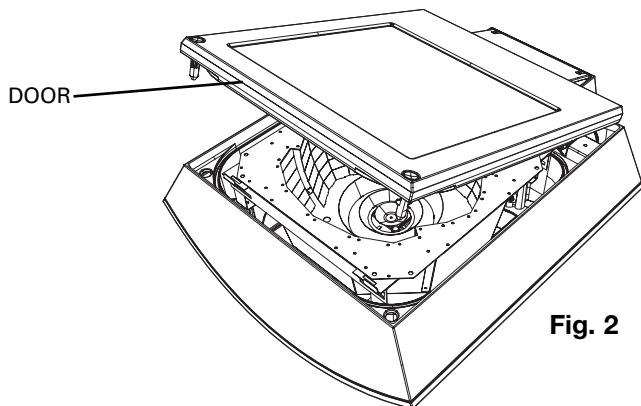

Fig. 2
2. Remove DOOR while it is at a 20° - 30° angle to the housing. This will allow the door to slide over and forward from the hinges. (Fig. 2)